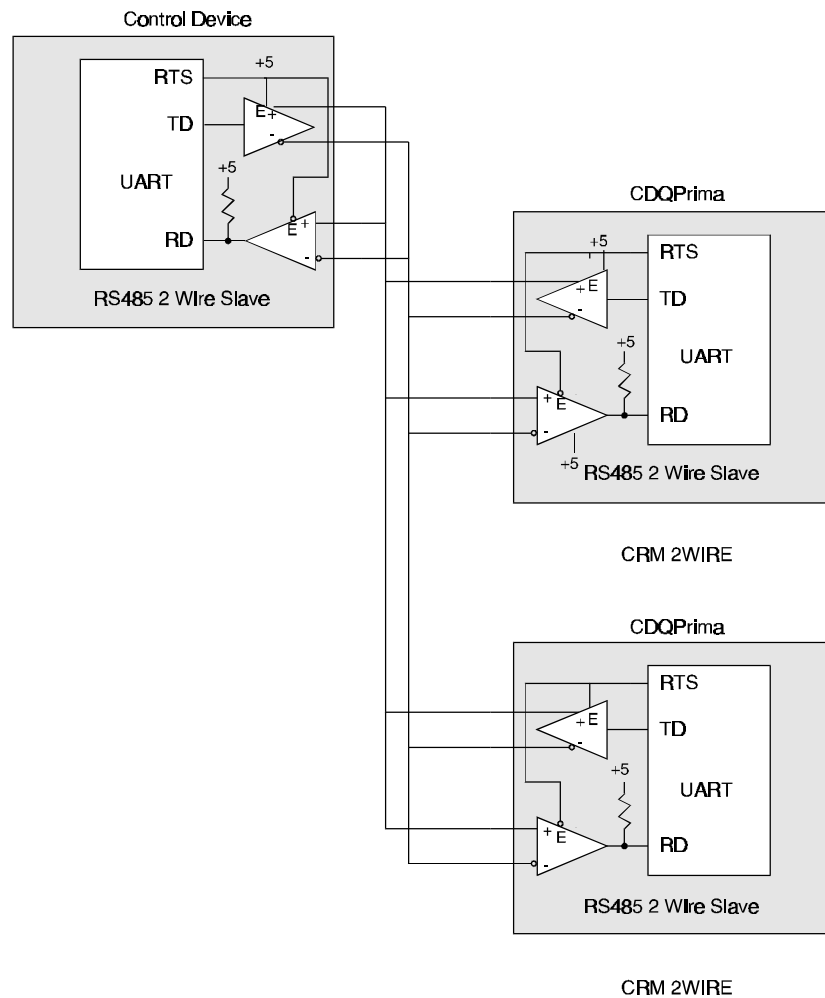

Figure 5-4 RS485 two wire slave interconnection
Fig. 5-4 shows a configuration in which only two wires are used for both transmission and reception. In this configuration all transmitters (TD) must be disconnected from the bus and all receivers are connected to the bus looking for a message with the correct ID. Whichever unit wants to access the bus must first enable its transmitter (TD), disable its receiver (RD) and transmit its message with the appropriate ID field, thus becoming a 'temporary' master. Once the message has been transmitted, it must disconnect its transmitter and enable its receiver. Notice the small circle above the E by the line receiver. This indicates that the RTS signal is inverted before connection to the line receiver. This circuit automatically forces the receiver to be off when the transmitter is on, and vice versa. This configuration is also an addressed communications bus.